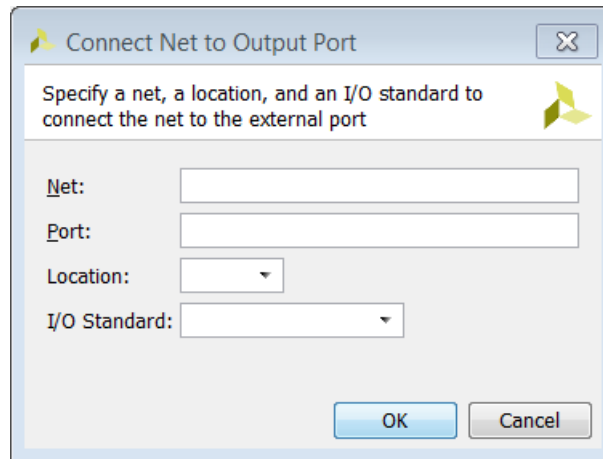

Figure 3-56: Connect Net to Output Port Dialog Box
- **Connect Net to Output Port:** Opens the Connect Net to Output Port dialog box, which allows you to connect the selected net to an external port. See Figure 3-56.
Logical changes are reflected in the schematic view as soon as the netlist is changed. The following figure shows an updated schematic based on the netlist changes shown in Figure 3-56.